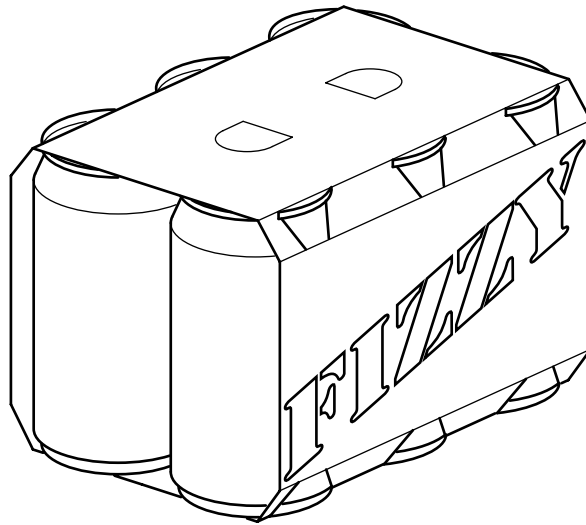

Fig. 4
- 4 Fig. 4 shows a cardboard wrap used for retailing multi-packs of drink cans.
- Sketch a net of the wrap shown in Fig. 4. Include all details of the locking method. [8]